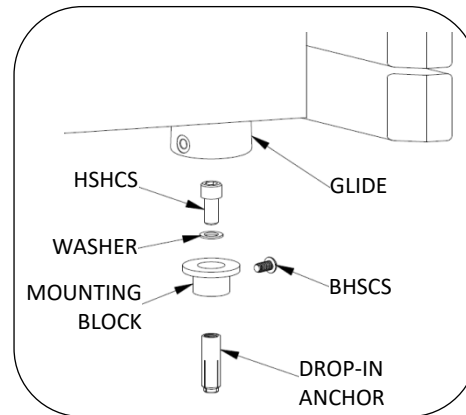

Fig. 2
5. Set mounting block over drop-in anchor. Install washer and socket head cap screw as shown in Fig. 2. Tighten to 55-60 ft-lbs.